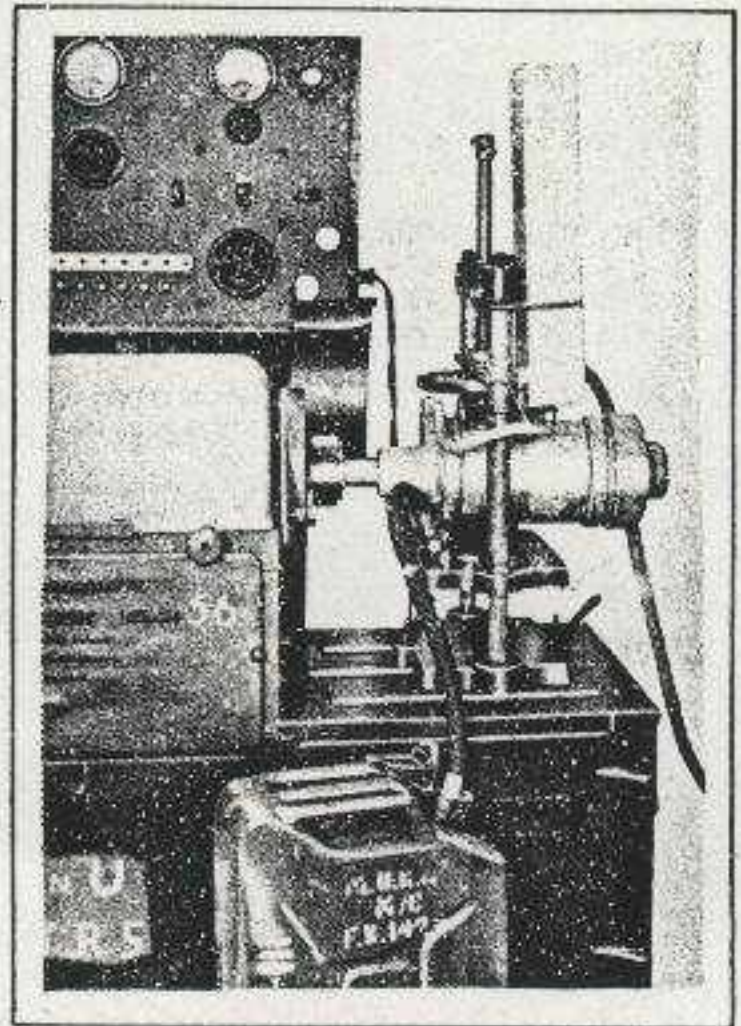

FIG. 42 - GENERATOR (TWO-SPEED)
- (a) Mount the generator on a 'Test Bench electric' with a suitable drive coupling and oil supply, see Figs. 42 and 43. Before testing, drive the generator at the lowest speed for approximately three to five minutes to allow the lubricant to circulate through the gearbox.